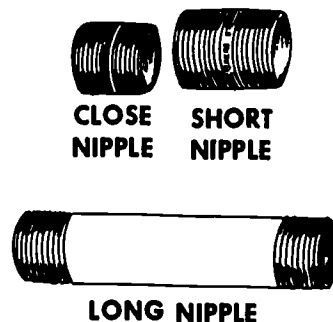

Fig 1-25. Close, short, and long nipples.
- **Nipple:** A nipple is a short piece of pipe (maximum length 12 inches) with threads on the outside diameter of both ends. There are three types of nipple fittings: close, short, and long. A close nipple has threads running the whole length of the nipple. A short nipple has a greater threaded portion than an unthreaded portion. A long nipple has a smaller threaded portion than an unthreaded portion. Figure 1-25 shows the three types of nipples.